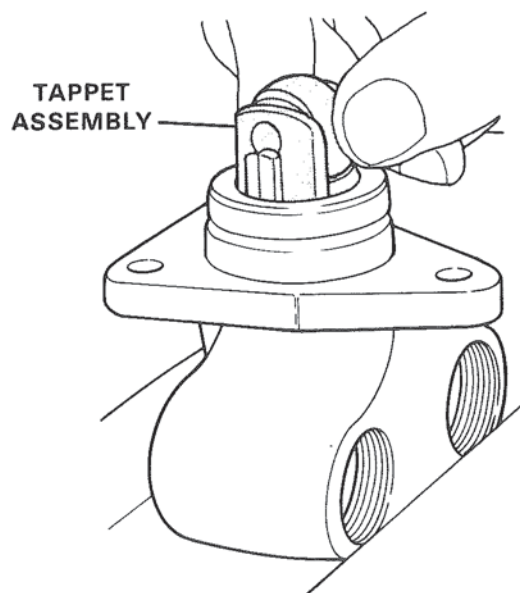

Figure 17. Inserting Tappet.
B. Place sliding block into tappet so that block lines up with slot in housing. Figure 17.